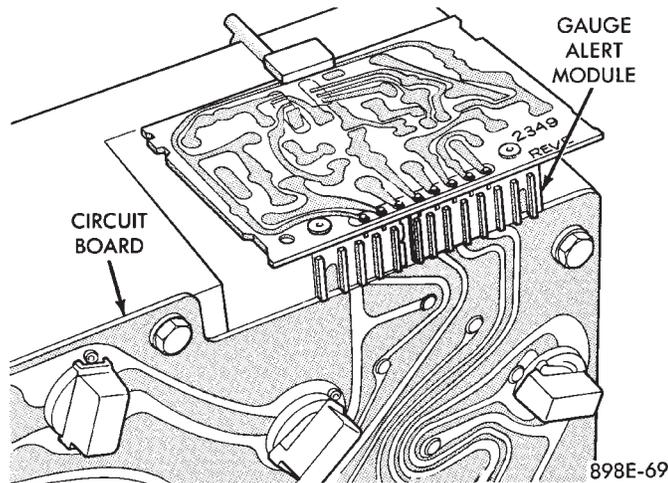

Fig. 33 Gauge Alert Module
- (1) Remove cluster assembly. Refer to Cluster Assembly Replacement.
- (2) Pull gauge alert module from printed circuit board (Fig. 33).
- (3) For installation reverse above procedures. Use care when aligning module to printed circuit board.